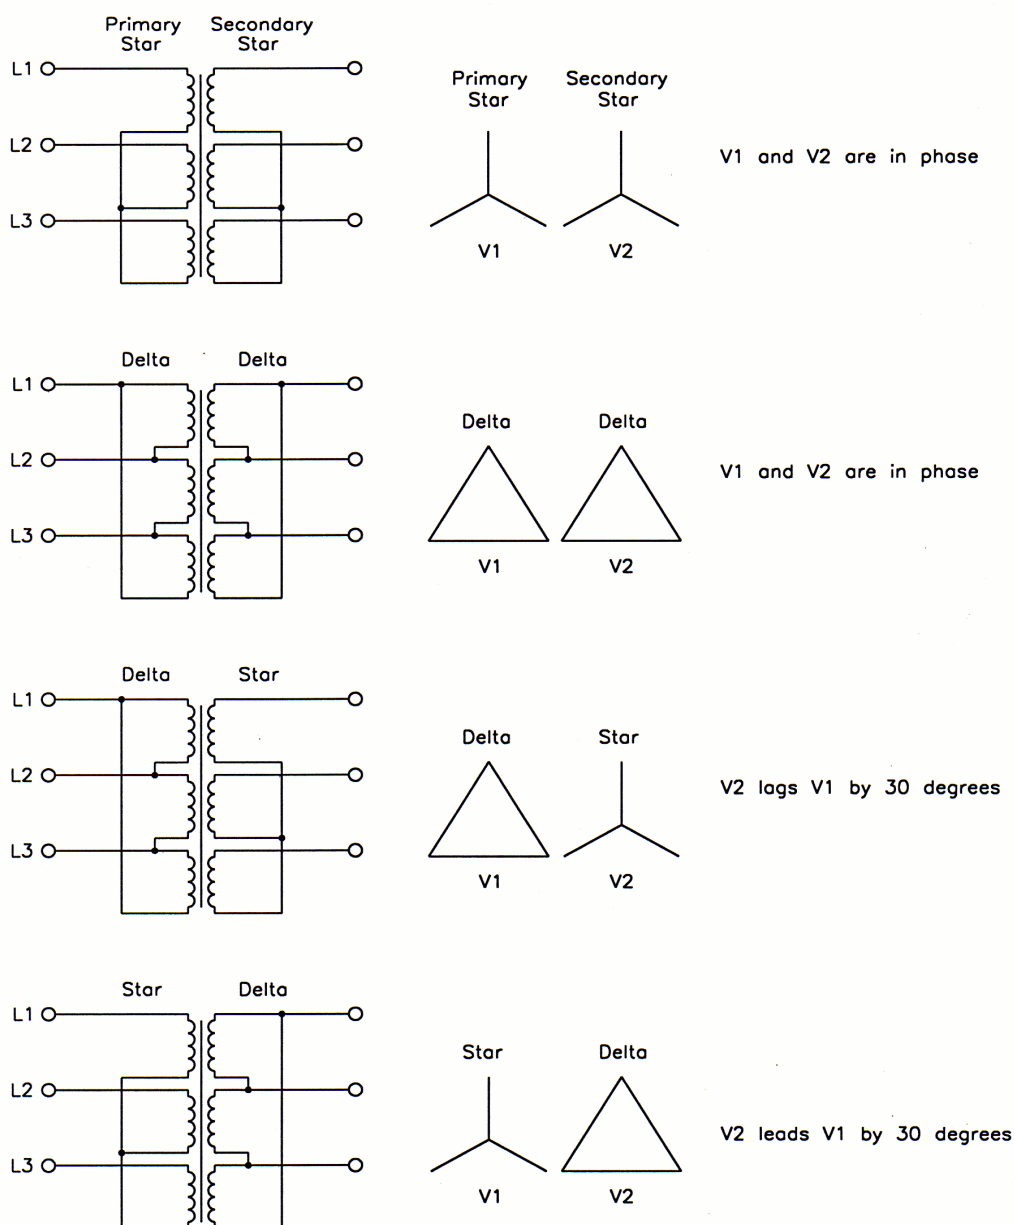

Figure 18 – Three phase transformer connections and phase angles
53. Connecting three phase transformers in different configurations results in different output voltages as might be expected, but it can also result in different phase angles between primary and secondary voltages. In general, three phase transformer secondaries can only be connected in parallel if their voltages, phase sequence and phase angles (or phase shift) are the same. The phase relationships between the input and output of four of the main possible connections, is shown in Figure 18.